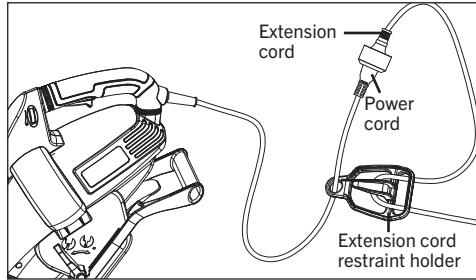

FIG. 12
1. Secure the extension cord (not included) by using the extension cord restraint holder. Then plug the power cord into the extension cord (Fig. 12).